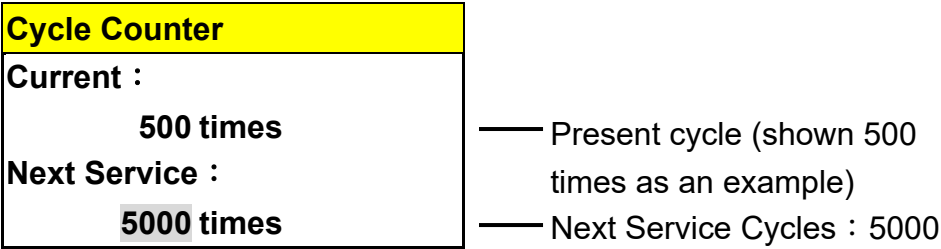

Figure 140
B. Press  button to the editing mode as shown in Figure 140.